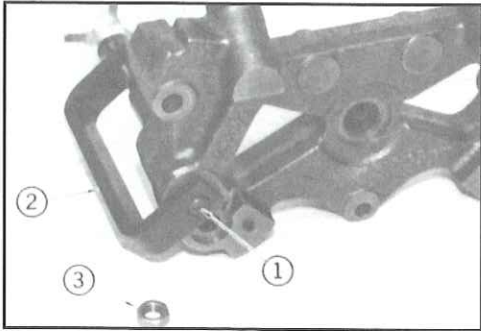

Fig. 48
1. Remove the locknut (3) on the slave piston adjusting screw (1). Back out the adjusting screw until the slave piston is fully retracted (screw is loose).
2. Place the hole in the clamp fixture (2) over the slave piston adjusting screw. See Fig. 48.
3. While holding the fixture in position, screw holder down over the slave piston (4) until the spring retainer (6) is contacted.
4. Turn the handle slowly until the retainer is depressed to about 1/32 in. (1 mm), relieving pressure against the retaining ring (5).
5. Remove the retaining ring. Use retaining ring pliers. Back out the holder until the springs (7) are loose. Remove the fixture.